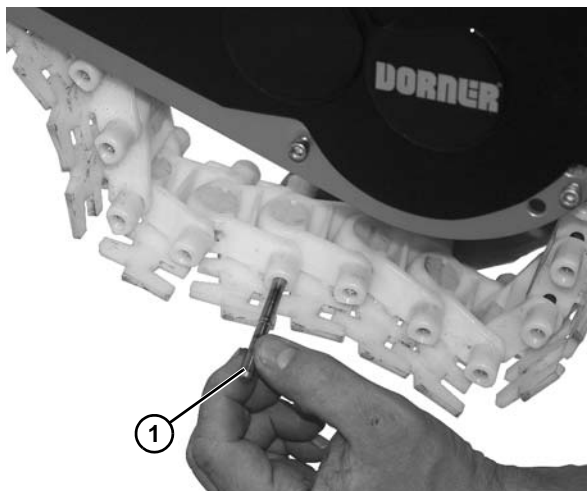

Figure 110
1. Use chain removal tool or a punch and hammer to push the chain rod (**Figure 110, item 1**) out.